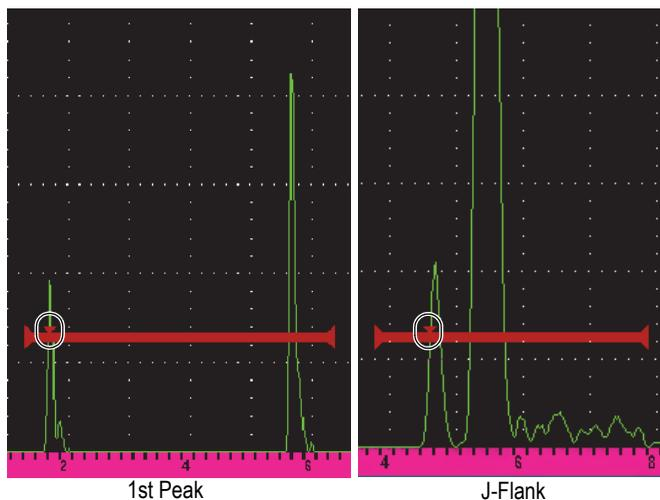

Figure 3-11 Trigger in 1stPeak, and J-Flank modes
- **1stPeak:** Acquires measurement readings based on the first peak to cross the gate threshold (level). See Figure 3-11 on page 61.
- **J-Flank:** Acquires thickness measurement readings based on the position of the first crossing point of a gated signal and amplitude measurement readings from the highest peak of the first echo in the gated region (see Figure 3-11 on page 61).